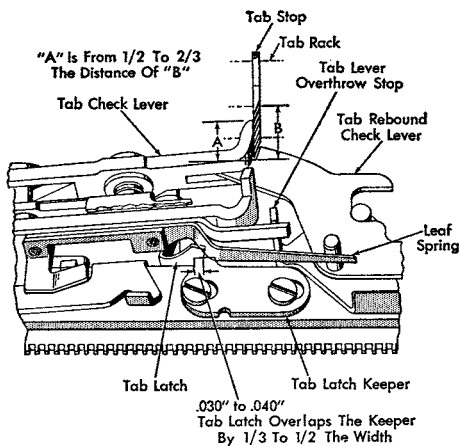

Figure 13. Latch Keeper Adjustment
1. **TAB LATCH KEEPER.** Position this so that the tab check lever covers one-half to two-thirds of the exposed surface of a set tab stop when the tab lever is held out by the keeper (Figure 13). At the same time the keeper should be moved left or right for .030" to .040" (.040" to .050" with floating selection) engagement of the latch on the keeper.